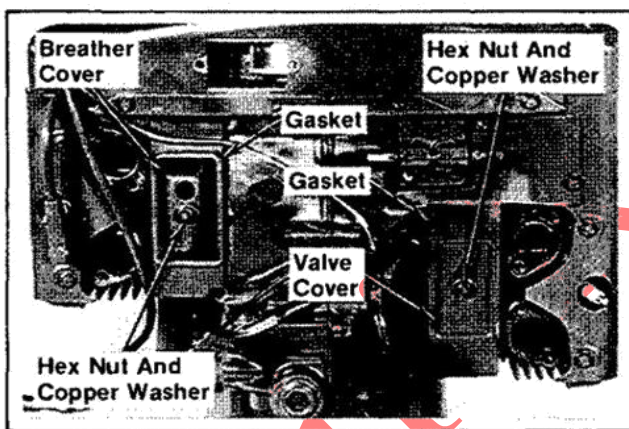

Figure 9-11. Removing Breather And Valve Cover.
1. Remove the hex nut, copper washer, breather cover, and gasket. Refer to Figure 9-11.
1. Remove the hex nut, copper washer, valve cover, and gasket. Refer to Figure 9-11.